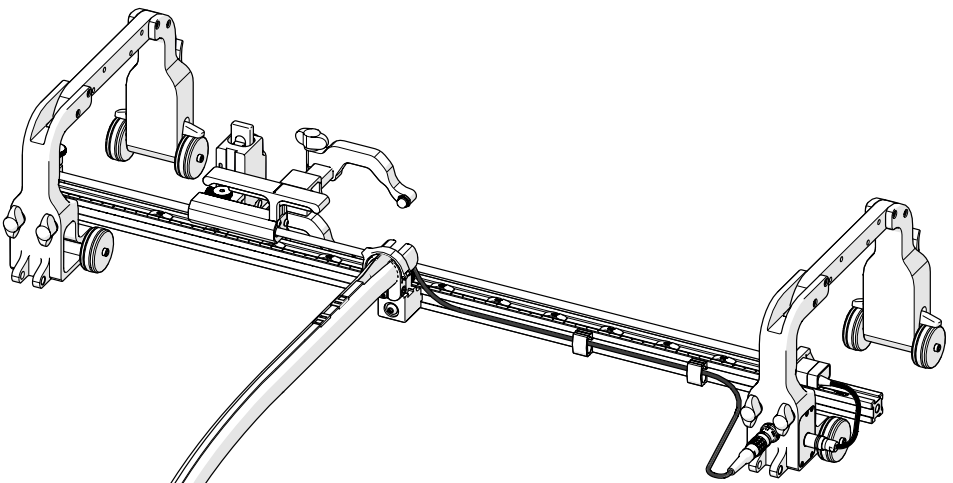

Fig. 74 - Route cabling
2. Plug in the encoder cable to the encoder connection (see *Encoder Connection* on page 9) and route the encoder cable through the cable management (see *Cable Management* on page 19) and cable clips (Fig. 74).